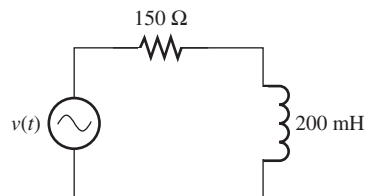

FIGURE P6.32 Circuit for Problem 6.32.
- 6.32 (B) Find the steady-state expression of the current for the circuit in Figure P6.32 if the voltage source is $v(t) = 12 \cos(120t)$.